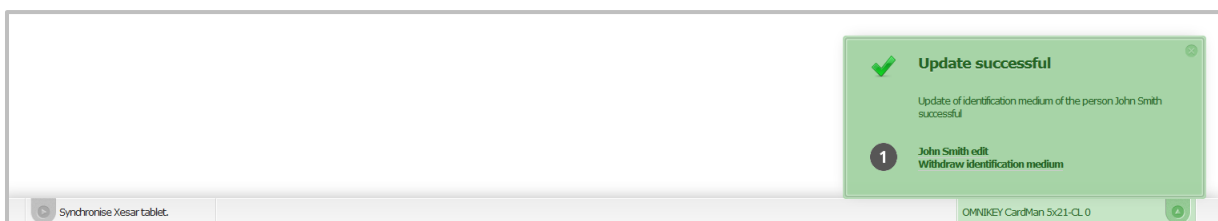

Figure 114: Withdrawing access media
- Select **Withdraw access medium 1** (Figure 114: Withdrawing access media).